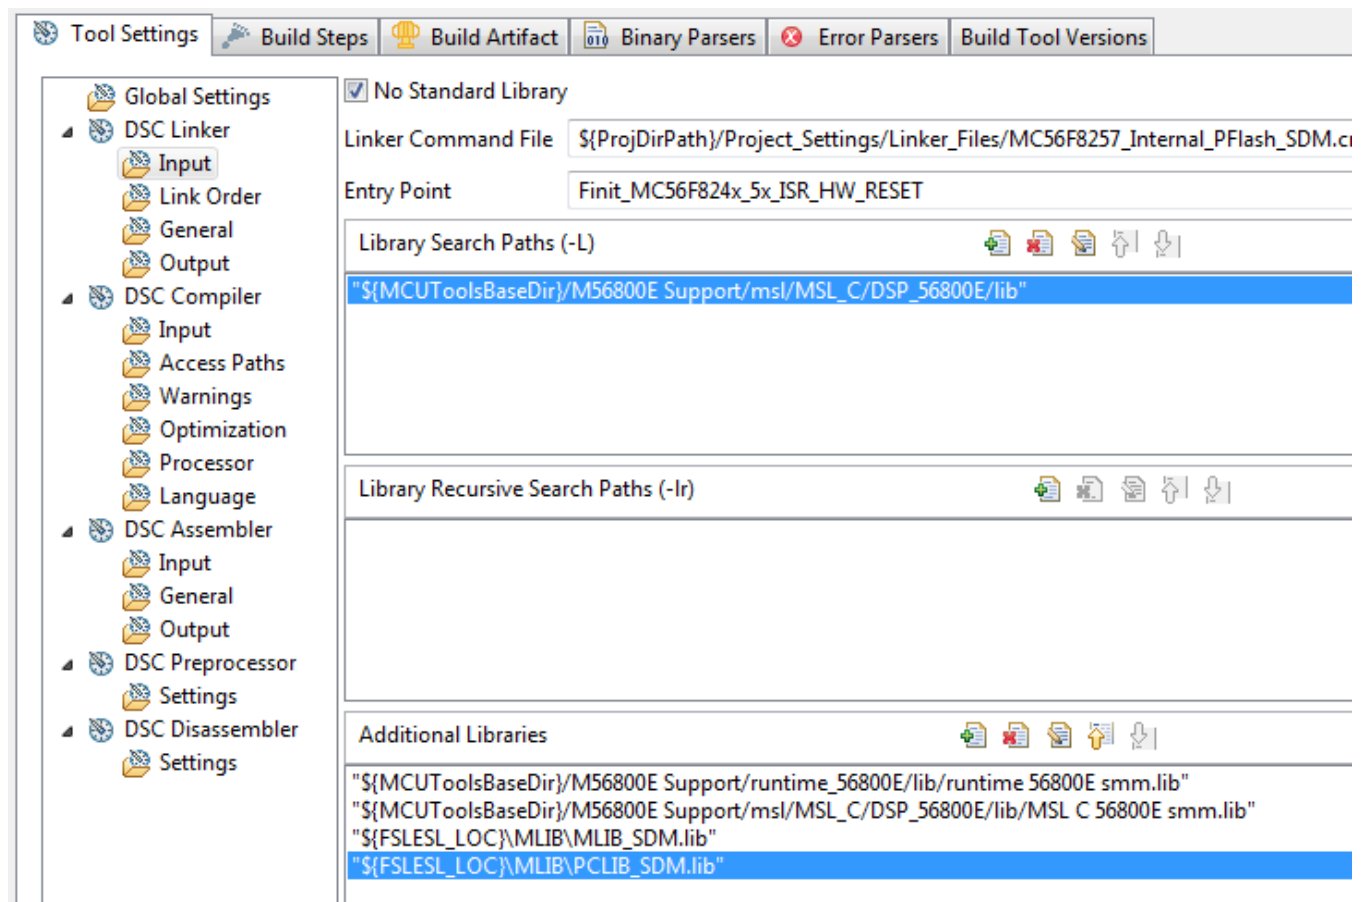

Figure 1-11. Linker setting
3. In the right-hand tree, expand the DSC Linker node, and click Input. See Figure 1-11.
8. Now, you will see the added in the box. See Figure 1-11.